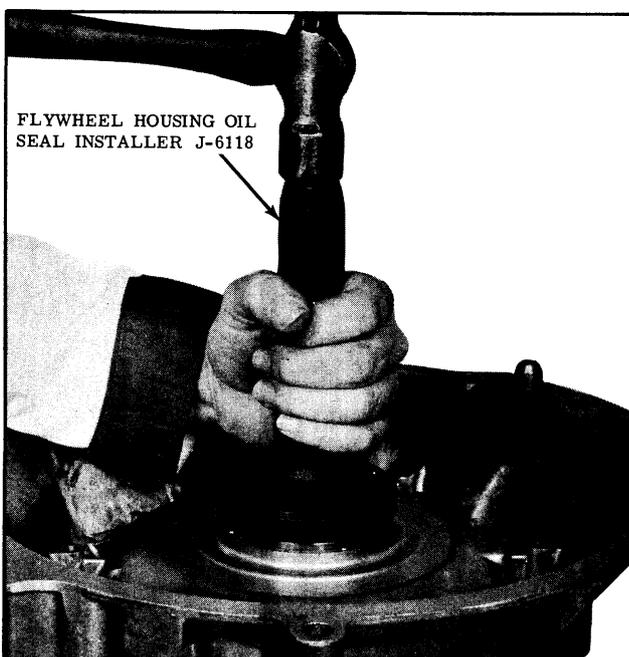

Fig. 3-129 Seal Installation
3. Place seal installing Tool J-6118 into seal and drive seal into place. (See Fig. 3-129). Remove tool from seal.